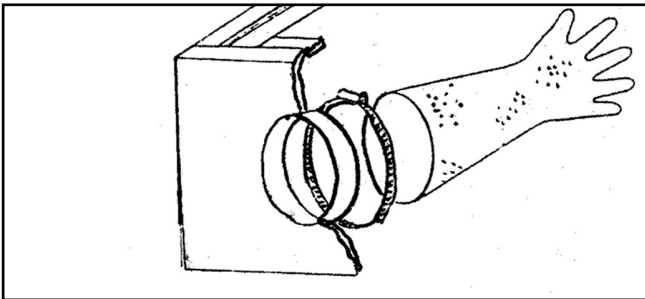

Figure 2. Glove installation.
2. Install the gloves as shown in **Figure 2**.